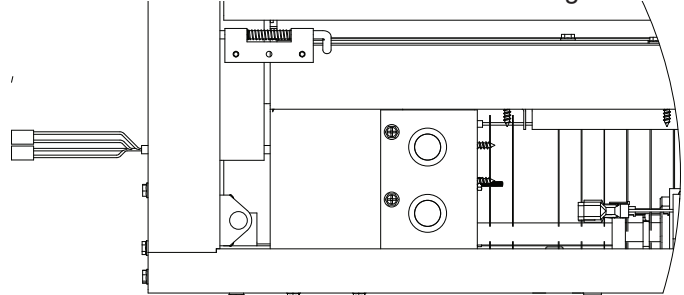

Figure 36. LED control assembly screws
4. Remove two screws holding LED control assembly in place. See Figure 36. Turn flat and pull forward.
10. Reinstall front and rear hearth with nineteen (19) screws.
11. Install two (2) air deflection glass panels and glass media.